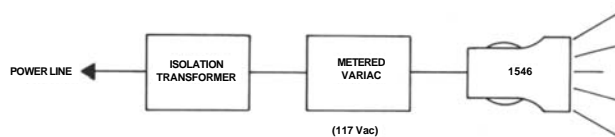

Figure 5-1. Trouble Analysis Set-Up.
- Make the set-up as shown in Figure 5-1.
- After replacing fuse(s), make the set-up shown in Figure 5-1. Use caution while reapplying
- a. Make the set-up shown in Figure 5-1.
- b. If the instrument still fails to flash, make the setup shown in Figure 5-1. Set the Variac for 125 Vac output and the flash rate for 3600 fpm (MED range).
- a. Make the setup shown in Figure 5-1.
- a. Make the set-up shown in Figure 5-1. Connect an oscillator to the instrument through the EXTERNAL IN jack, using the tip and shaft connections to the 3-terminal plug. The oscillator should be set to produce a 60 Hz (3600 fpm) sine wave, 2 V pk-pk. Set the instrument range switch to medium range. Insure that the signal is present at pin 9 of U1.
- a. Make the set-up shown in Figure 5-1. Set the instrument to 3600 fpm on the internal mode.
- a. Disassemble the instrument, and make the set-up as shown in Figure 5-1.